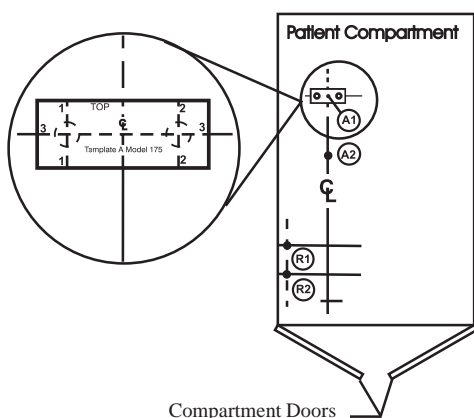

Figure 12 - Placing Template A at Antler Point A1
- Place the hole in the template on Antler Point A1 (Figure 12).
- Align the template with its Centerline arrows on the Centerline on the floor (Figure 12).